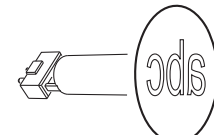

Figure 19. Correct gobo orientation
The orientations shown in Figure 19 are correct in most cases, but consult your Martin dealer or gobo supplier if you are in any doubt about the orientation of a specific gobo type.
**Correct gobo orientation is critical. Read the guidelines in Figure 19 carefully before installing a gobo.**
9. Insert the new gobo in the holder with that must face towards the lamp – the more reflective side – facing upwards towards the spring (see Figure 22 and Figure 19).